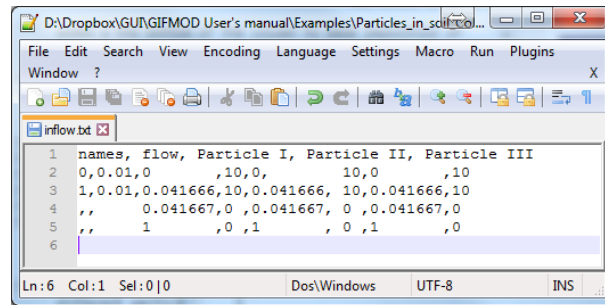

Figure 4.1: Inflow file for particle transport in soil example
6. **Inflow file:** Here we create the inflow file. It is assumed that the flow rate is constant and equal to $0.01m^3/day$ which results in a velocity of $2.5m/day$ over the entire experiment which takes 1 day and the particle concentration for all three types of particles in $10mg/L$ for a period of 1hr and which is followed by no particles in the inflow. The inflow file will look like figure 4.1. Create or download